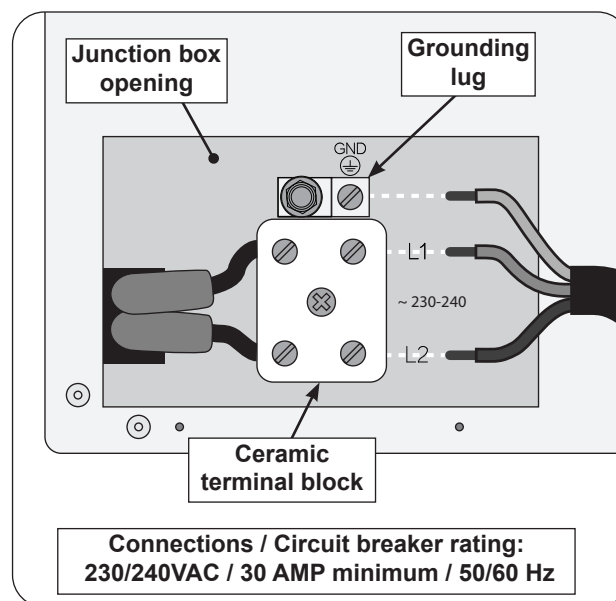

Fig. 28-3 Wire connection diagram
3. Connect the wires to the ceramic terminal block. Reference the wiring information below and Fig. 28-3.